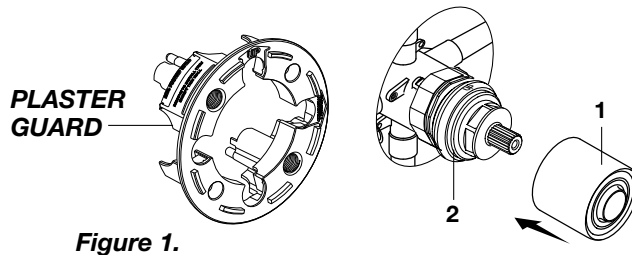

Figure 1.
- ☒ **Figure 1.** Remove plaster guard from valve. Push CAP (1) over VALVE CARTRIDGE (2) until seated against stop.